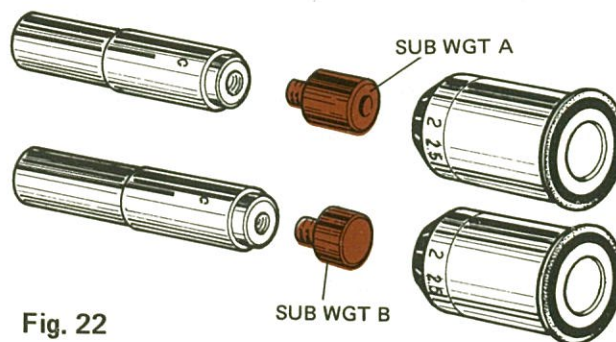

Fig. 22
- f) If use of the main weight alone can not give the desired stylus pressure because a heavier cartridge is employed, use one or both sub-weights (supplied) in addition to the main weight. They can be easily screwed in for mounting onto the tone arm. **See Fig. 22.**